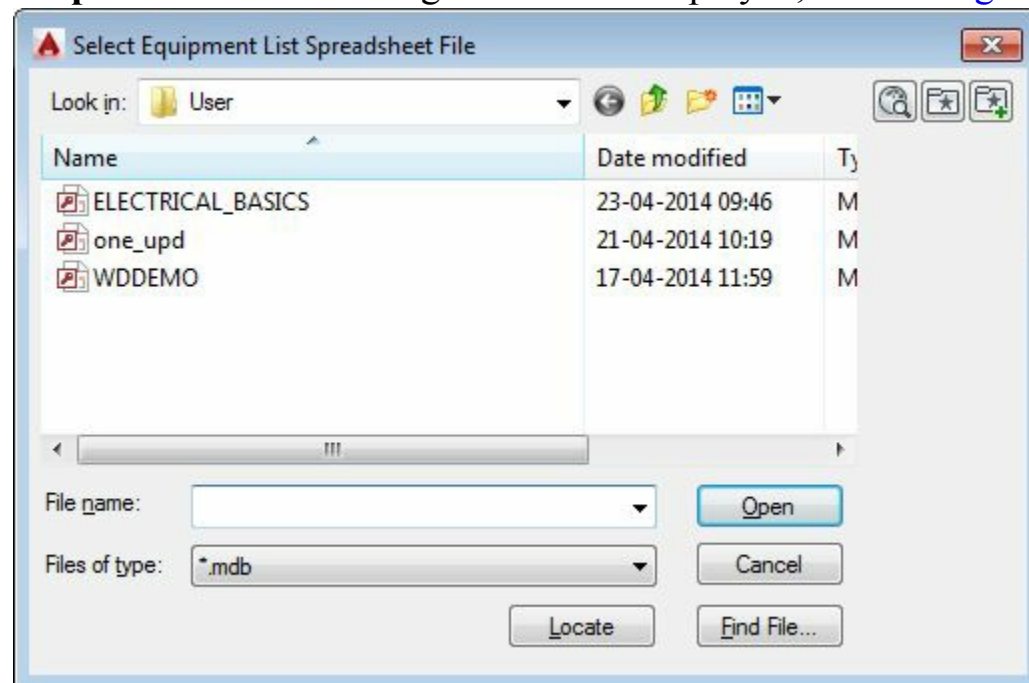

Figure-27. Select Equipment List Spreadsheet File dialog box
- Click on the **Equipment List** tool from the **Component** drop-down. The **Select Equipment List Spreadsheet File** dialog box will be displayed; refer to Figure-27.